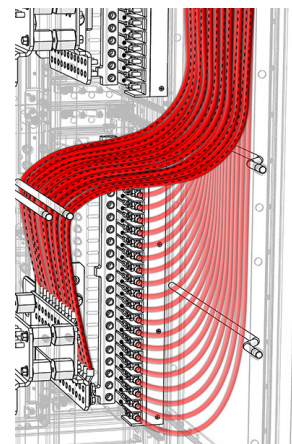

Figure 18. RTN Output Connections
- Step 3.** Install all return output cables/lugs to the return output studs located on the return output bus and tighten hardware (see Figure 18).